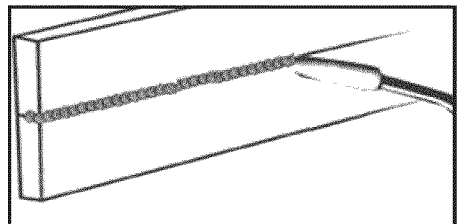

Fig. 10b
- **HORIZONTAL POSITION** is performed very much the same as the flat weld except that angle B (see **HOLDING THE TORCH**) is such that the wire is directed more toward the metal above the weld joint. This helps prevent the weld puddle from running downward while still allowing slow enough travel speed. A good starting point for angle B is about 30 degrees **DOWN** from being perpendicular to the work piece. (Fig. 10b)